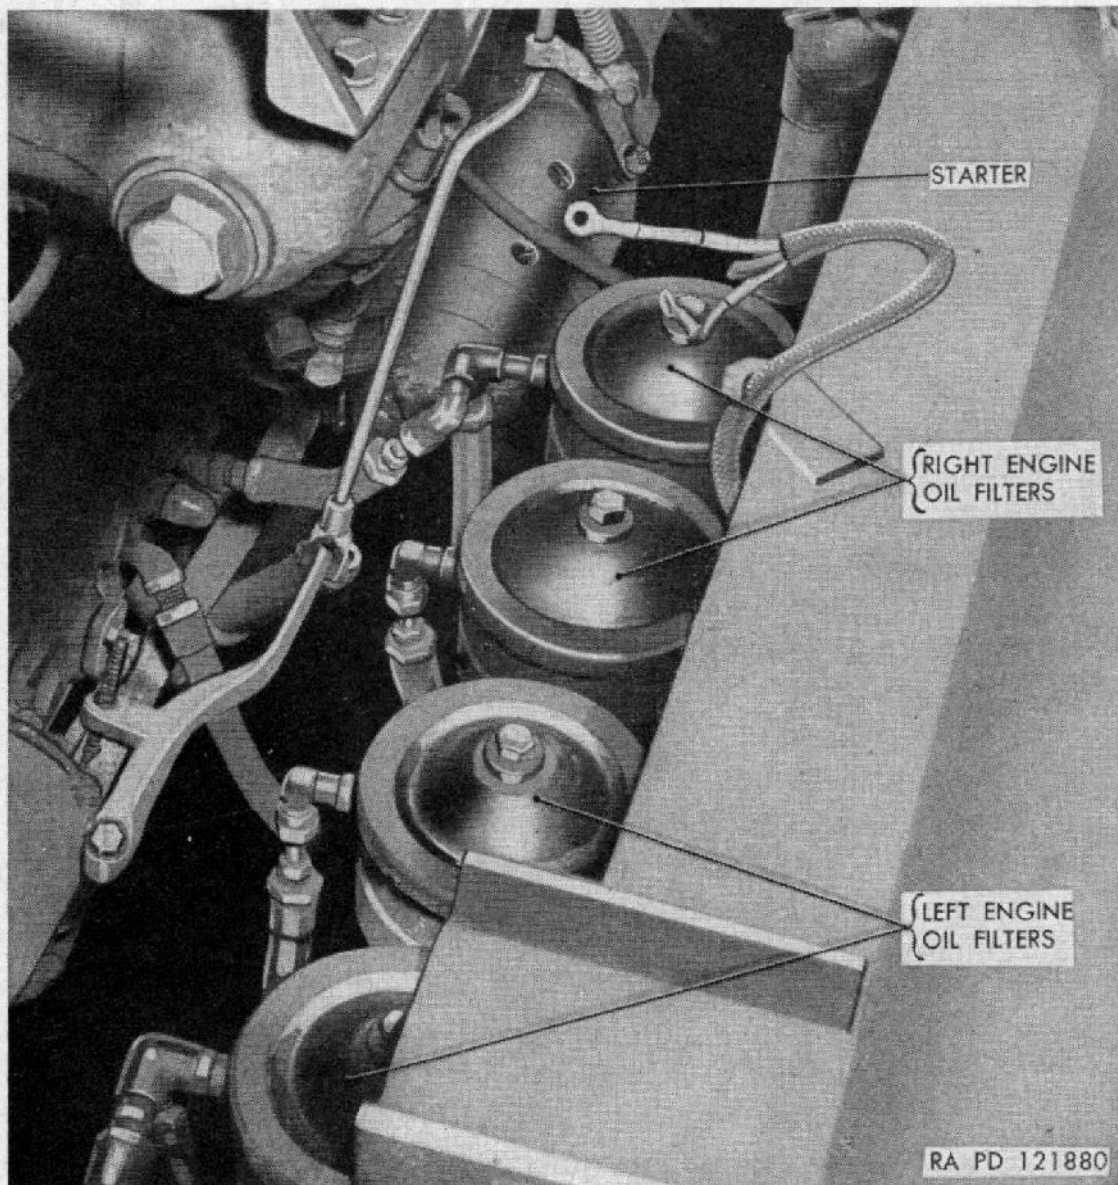

Figure 32. Engine oil filters.
- (1) *Description* (fig. 32). Four replaceable cartridge-type oil filters are mounted on brackets inside hull on right side of